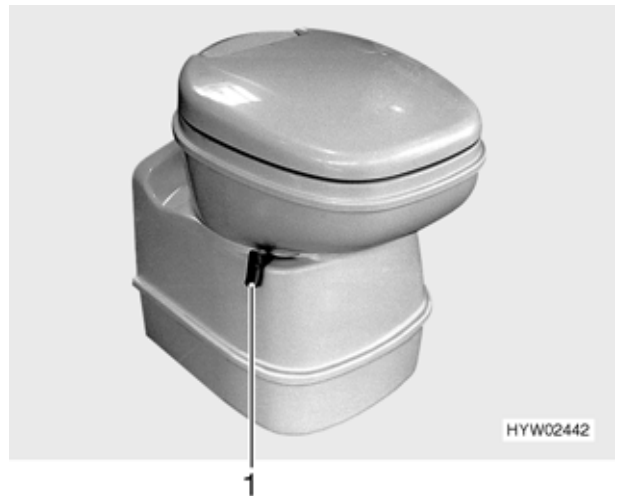

Fig. 149 Thetford toilet bowl (variant 1)
- Before flushing open the sliding trap of the Thetford toilet. To do this, turn the slide lever (Fig. 149,1) in an anticlockwise direction.
- After flushing close the sliding trap. To do this turn the slide lever (Fig. 149,1) in a clockwise direction.
- Turn the slide lever (Fig. 149,1) in a clockwise direction: the sliding trap is closed.